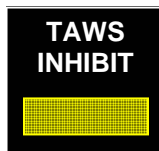

Figure 1 Approved TAWS INHIBIT Switch Display
2. Verify the existing TAWS INHIBIT switch meets the display requirements as shown in Figure 1. If the TAWS INHIBIT switch does requires replacement, go to the "TAWS INHIBIT SWITCH REPLACEMENT" section of this Service Bulletin.